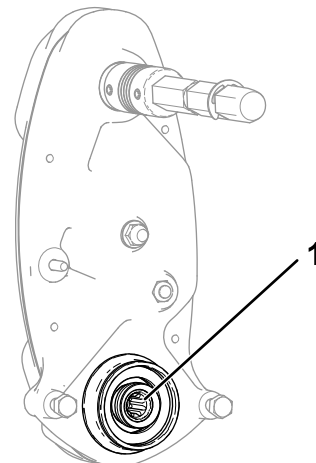

Figure 14
3. Check the inside of the reel driveshaft (Figure 14) for any remaining grease.